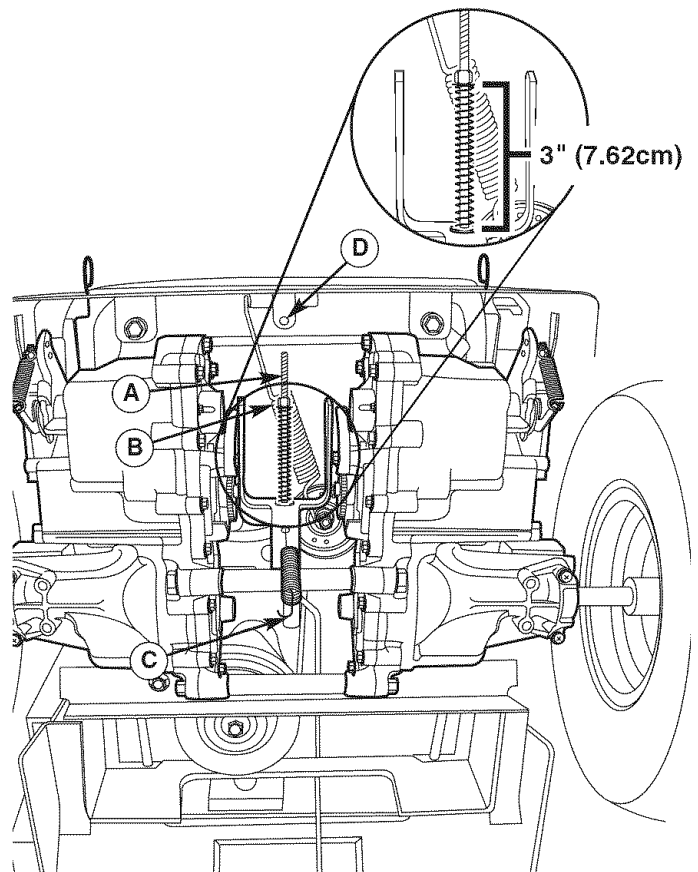

Figure 32. Brake Adjustment
2. Locate the brake rod (A, Figure 32) and adjustment nut (B).
4. Measure the parking brake spring. Its compressed length, with the ground speed levers in their PARK positions should be 3" (7.62cm). Adjust the spring length by turning the adjustment nut (B), if necessary.